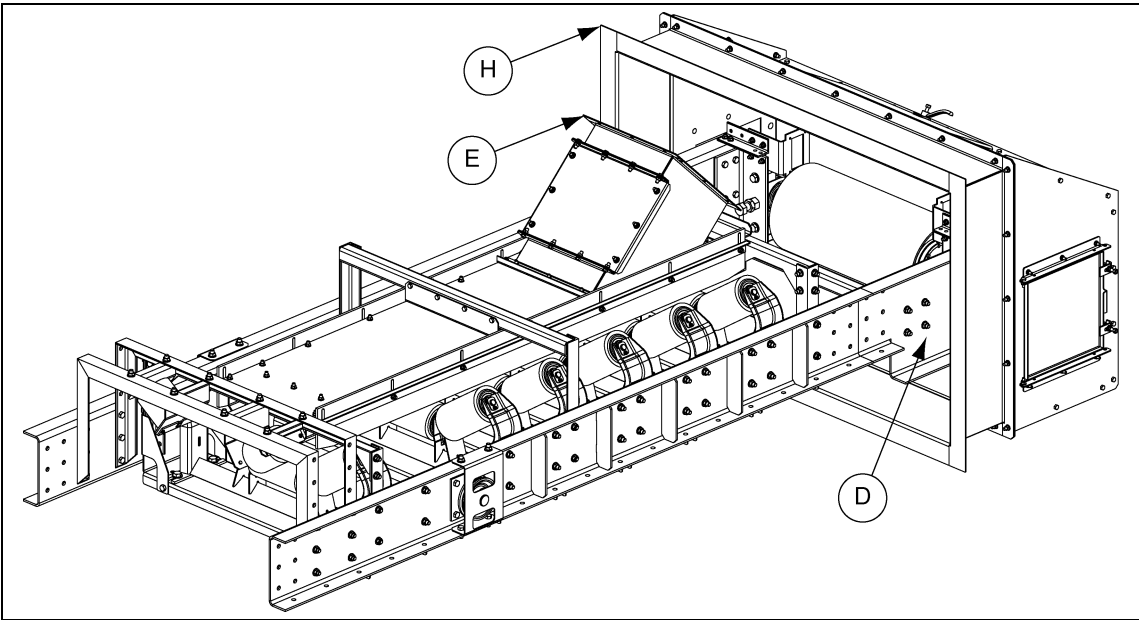

Figure 4C
1. Install tail cover (H). (See Figure 4C.)